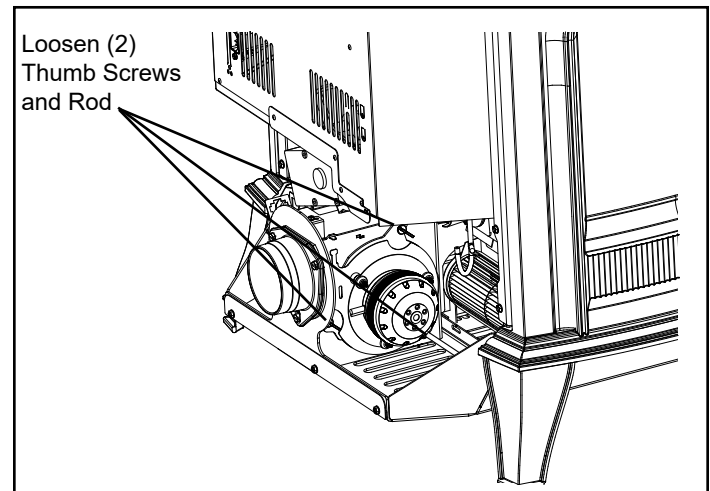

Figure 2.7
- Remove the combustion blower by loosening the 2 Thumb Screws and Rod (Figure 2.7), twisting the combustion blower mount plate counterclockwise to unlock, and pulling the blower out.